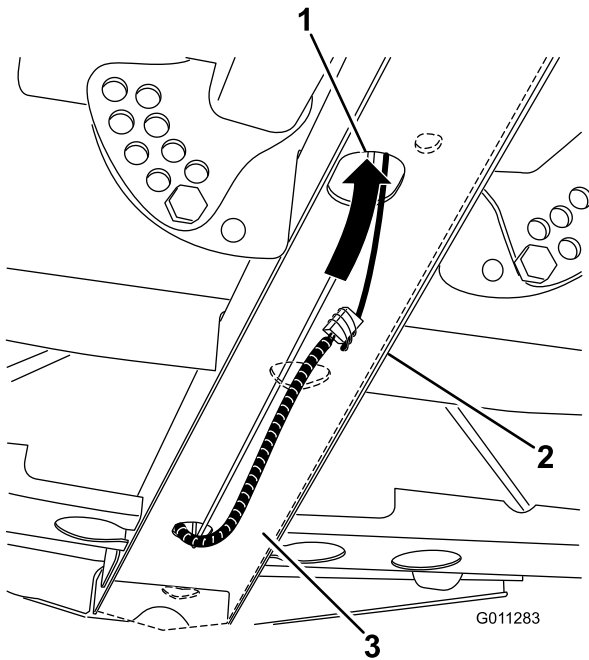

Figure 9
- Use the wire to pull the harness forward and up through the hole in the center frame channel below the dash (Figure 9).